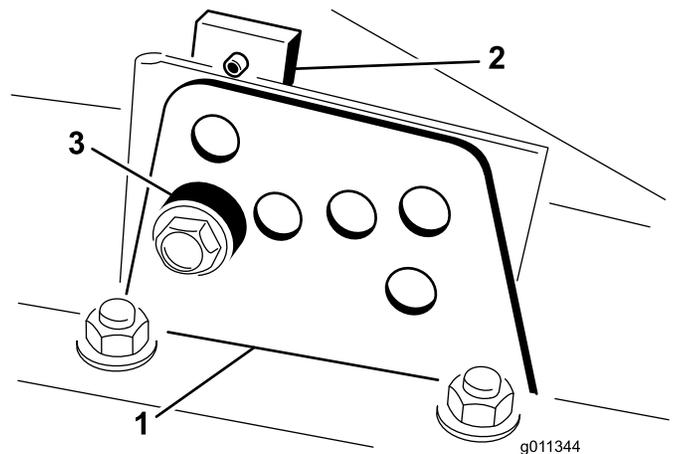

Figure 17
2. Loosen the bolt securing each height-of-cut bracket to the height-of-cut plate (front and each side) (Figure 17).
- While supporting the chamber, remove the spacer (Figure 17).